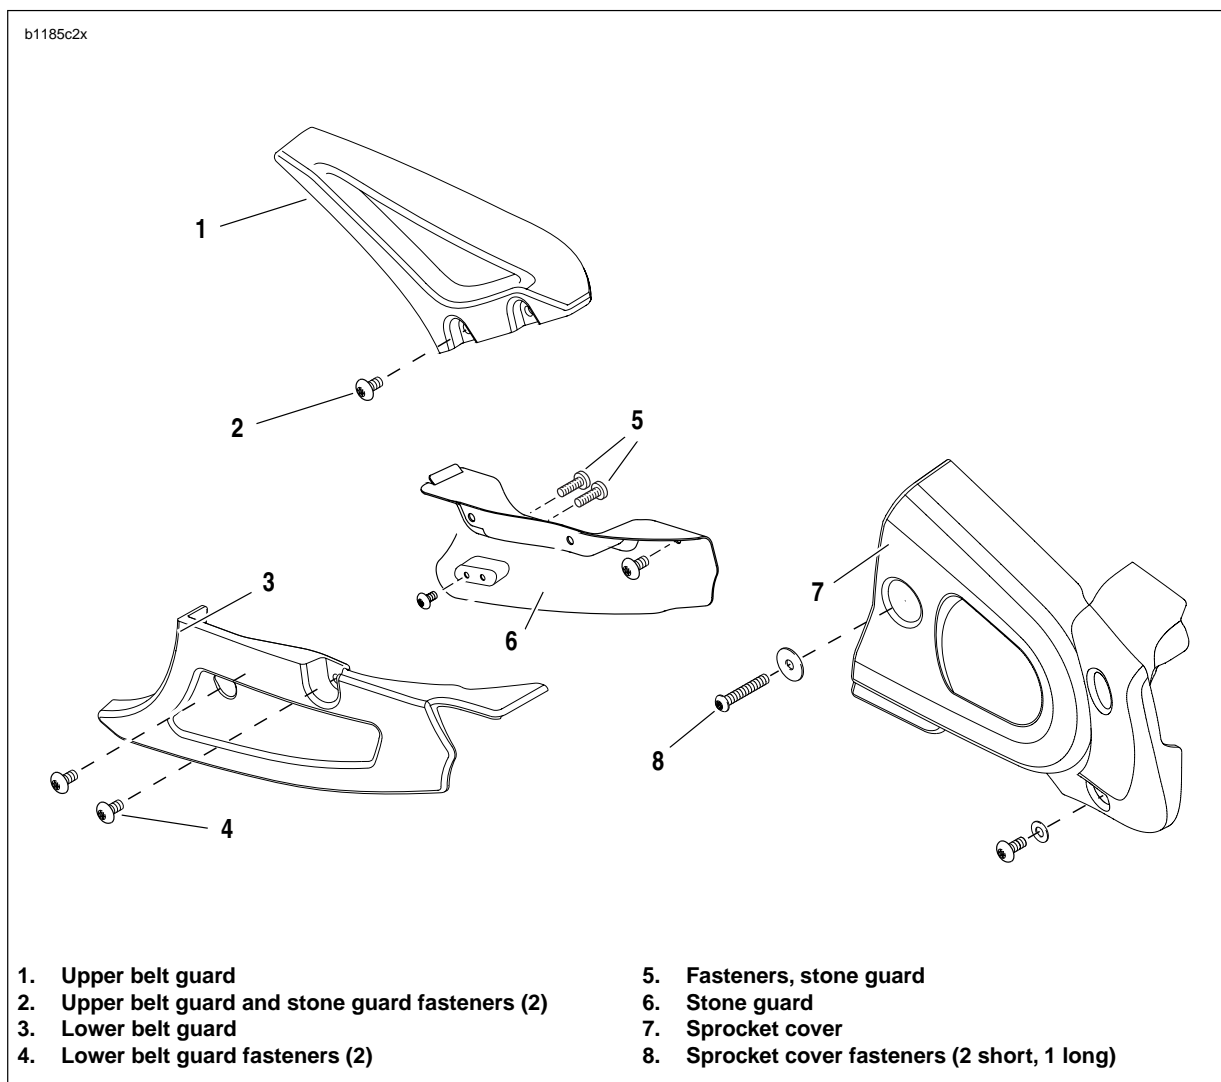

Figure 2-121. Belt Guard Assembly
5. See Figure 2-121. Remove lower belt guard by removing the two fasteners located on the outside of the lower belt guard.
7. Remove upper belt guard (1) by removing fasteners from swingarm.
1. See Figure 2-121. Install upper belt guard (1) to swingarm brace tightening fasteners to 12-36 **in-lbs** (1-4 Nm).
3. Install lower belt guard (3) and tighten fasteners (4) to 12-36 **in-lbs** (1-4 Nm).